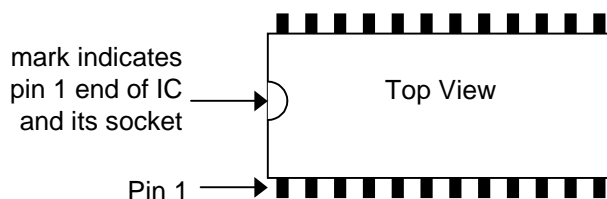

Figure 1: IC Pin 1 Identification
1. Select which type of modem to test. The EV9000 comes with CMX909B modems installed along with their appropriate personality plug-in boards. If you want to use a different modem, **carefully** remove the installed modems with an IC extraction tool and install a matching pair of modems. (If you do not have an extraction tool, a small flat bladed screwdriver can be very carefully inserted between the IC and its socket at each end. Do this a little bit at a time, twisting the screwdriver blade and alternating between each end of the IC until it lifts free of its socket. Take care not to lever against other components or the PC board as they may be damaged.) **Make sure** you properly orient the ICs to ensure pin 1 is in the proper socket location, as shown in Figure 1.